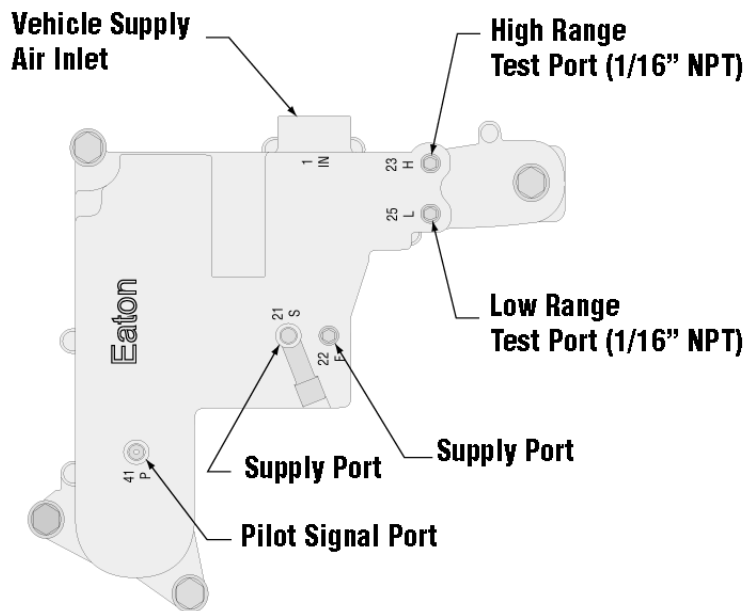

Figure 4-1 Air Module Ports
Figures 4-1 through 4-3 below show the air module, shift knob, and range alignment lock cover (earlier models) with their components labeled. These are the primary components used during troubleshooting. If necessary, refer to these figures while troubleshooting the air system.
5. Block off the air ports on the underside of the module. Use a piece of gasket material or rubber material to seal the bottom of the module as shown in Figure 4-1 under "Air System Nomenclature".
Reconnect the “P” line at the shift knob. Locate the two small pipe plugs on the rear of the air module. One is labeled “H” and the other “L”. (See Figure 4-1 “Air System Nomenclature”). Install a 0-150 PSI (0-1034 kPa) air gauge in the port marked “H.”
Less than 75 PSI (517 kPa)	On the top of the air module, remove the test port pipe plug for filtered vehicle air. (Marked "F" as shown in Figure 4-1.) Install the test gauge in the "F" port, and check the pressure. If the pressure is less than 90 PSI (620 kPa), repair the vehicle air system to achieve full vehicle air pressure at the air module inlet, and repeat the test. If the pressures greater than 90 PSI (620 kPa) and no external air leaks were detected from the air module, shift knob, or transmission, replace the air module.
4. Isolate and test the air module. Refer to Figure 4-1 "Air System Nomenclature" to see an example of an isolated air module.
Reconnect the “P” line at the air module. Locate the two small pipe plugs on the rear of the air module. One is labeled “H,” and the other is labeled “L”. (See Figure 4-1 “Air System Nomenclature”). Install a 0-150 PSI (0-1034 kPa) air gauge in the port marked “L”.